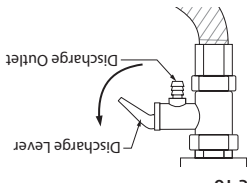

Figure 16
4. Drain the water by lifting the Discharge Lever of the Multi-function Safety valve upwards. (Refer "Figure 16")